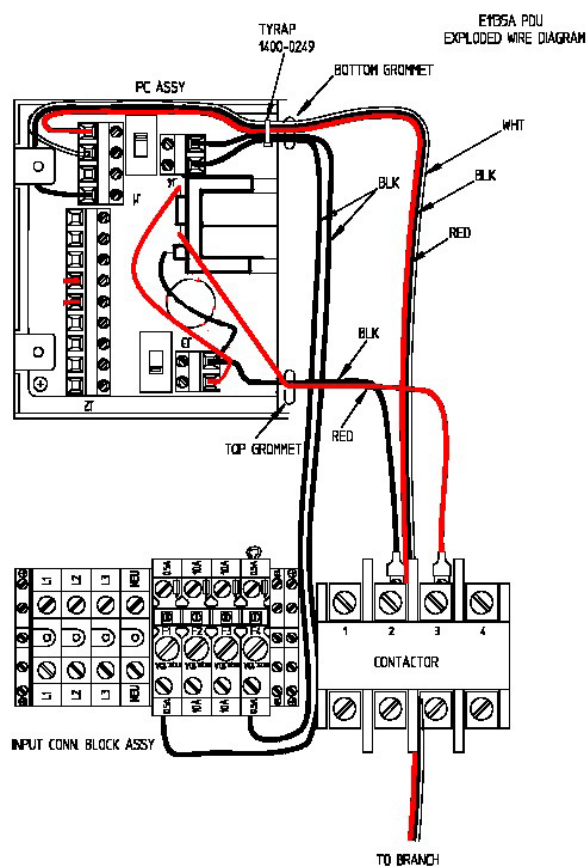

Fig 12
14. Re-wire the control board using the wiring diagram in Figure 12 and wires removed from J2 on the control board in step 9.